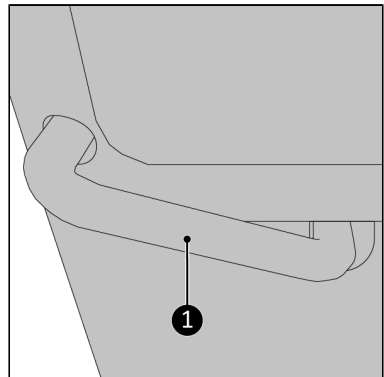

Figure 19.
1. Remove the short pre-shaped hose (Figure 19, pos. 1).